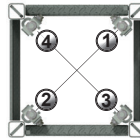

fig. 7.85
- 8- **Continue to hold the unit** and secure it to the base by tightening all mast bolts with a torque of 120 lb-ft (163 N-m), using a cross-pattern sequence when tightening (fig. 7.85).